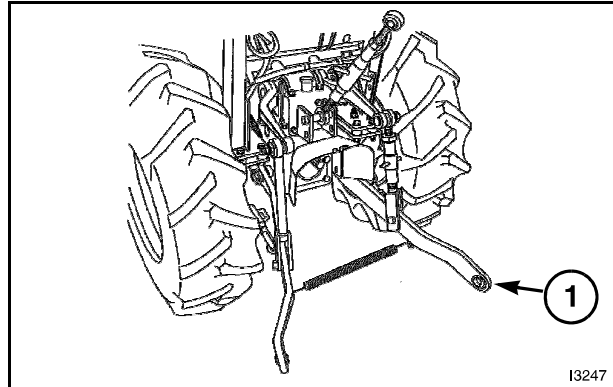

FIG. 88
FIG. 88: The three-point hitch (1) combines tractor and implement into one working unit. Implement position and raising are controlled hydraulically. In addition, implement weight and loads impose downward pressure at tractor rear wheels to increase traction.